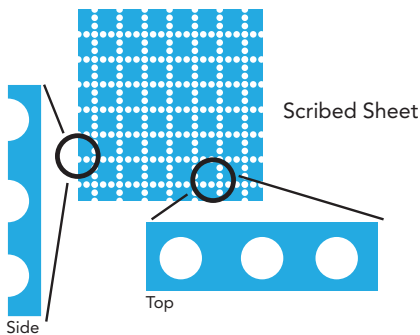

Figure 1: Scribing's jagged edge
1. Know when to laser scribe or laser cut when singulating. The decision of whether to cut or scribe often comes down to whether the application can accept a scribed, or perforated, edge. To scribe, the laser does not cut the material all the way through but instead pulses a line of tiny holes into one surface, with minute strips of material between the holes (**see Figure 1**). Once the entire sheet has been scribed, the parts can be singulated by breaking the sheet along the perforations, leaving single parts, which will have edges that will appear jagged if viewed under magnification.